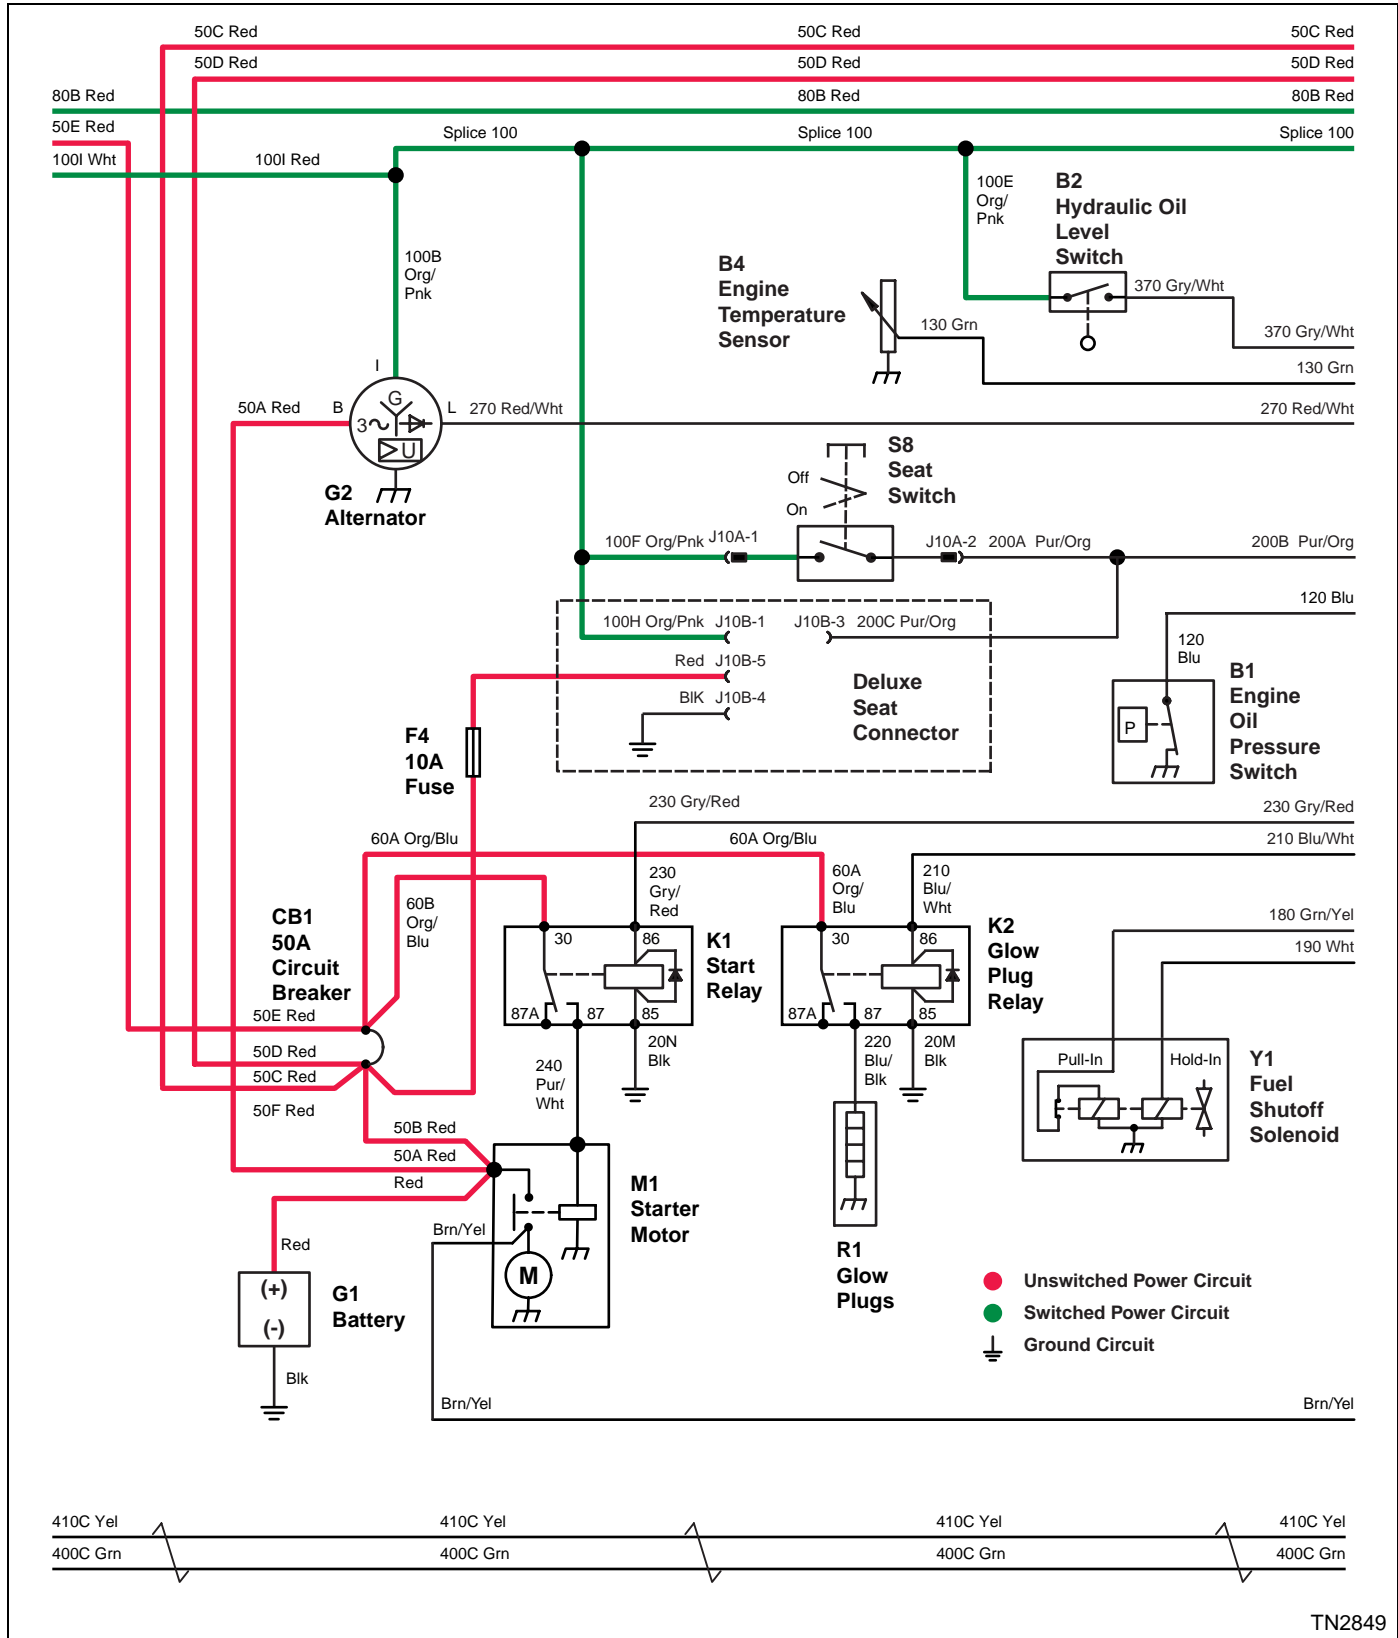

### Figure 4-2
- J9—Diagnostic Connector (See Figure 4-2.)
- S2—Horn Switch (See Figure 4-2.)
- S3—Work Light Switch (See Figure 4-2.)
- S4—Park Brake Switch (See Figure 4-2.)
- S5—Mow Switch (See Figure 4-2.)
- S6—Cruise Control Switch (See Figure 4-2.)
- S7—Raise/Lower Switch (See Figure 4-2.)